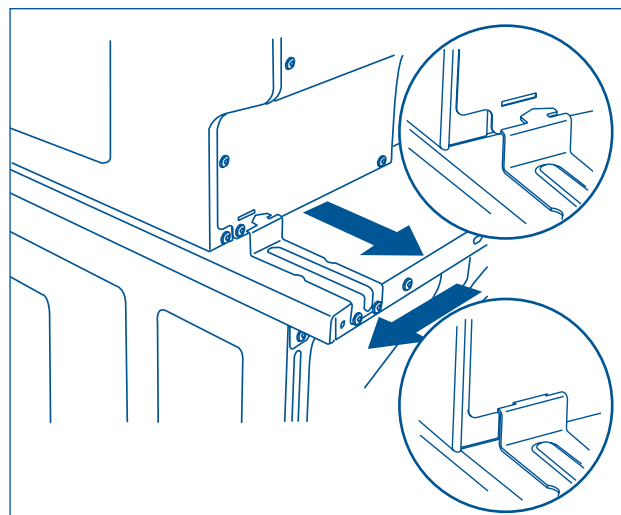

Figure 2-46.
3. Slide hook tabs on rear brackets into slots in back sheet of dryer. Dryer will be approximately ¼" left of center. Continue sliding dryer back until tabs are fully engaged. (See Figure 2-46)